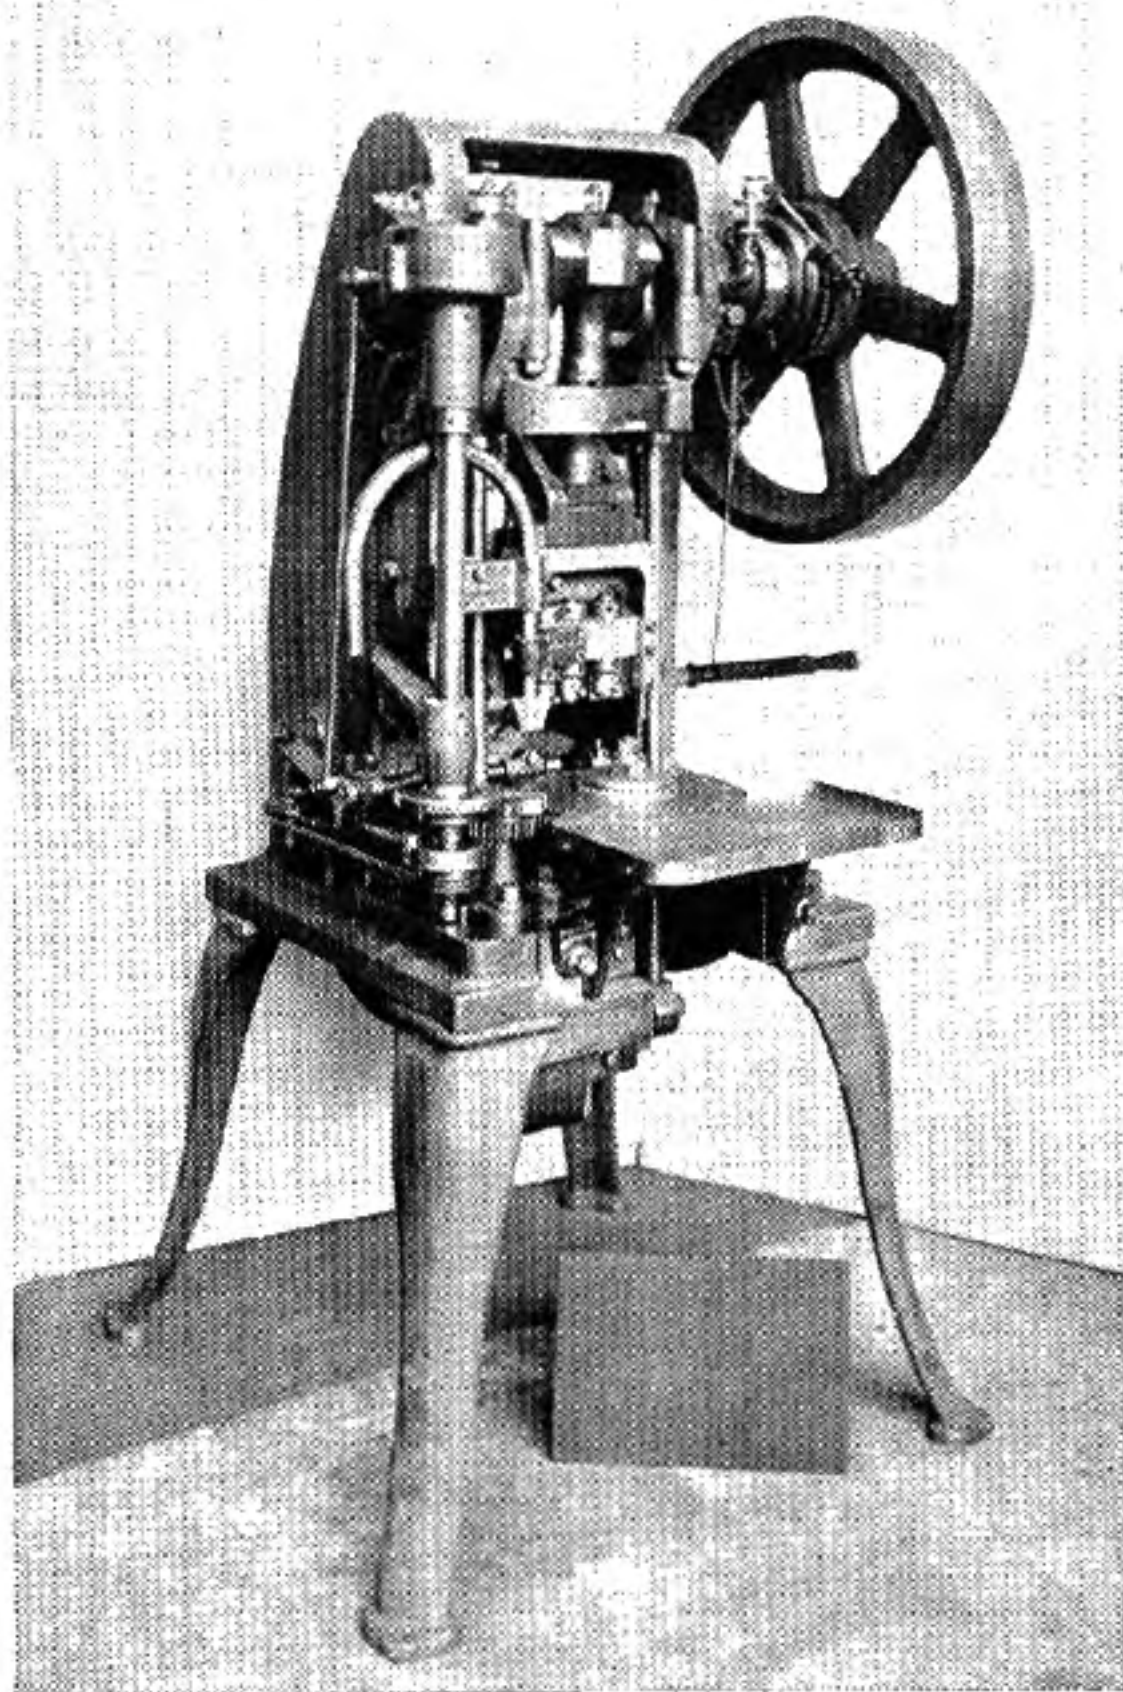

Fig. 160
**Vent Punching** — Piercing of the vent hole is the next operation, as well as resizing the primer pocket. The machine (Figure 160) which performs this operation has a circular revolving plate in which a series of dies are held. The fire-hole piercing punch performs the first operation, followed in resizing of the primer pocket. Next is an indicator for the purpose of tripping the machine in case a hole is not pierced due to a broken punch.